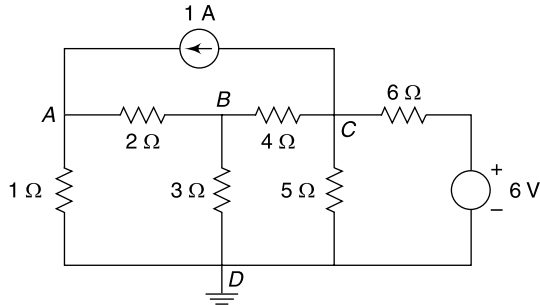

Fig. 4.127 Circuit of Ex. 4.96
4.96 Use node voltage analysis determine the power in the $2\ \Omega$ and $4\ \Omega$ resistor in the network of Fig. 4.127.